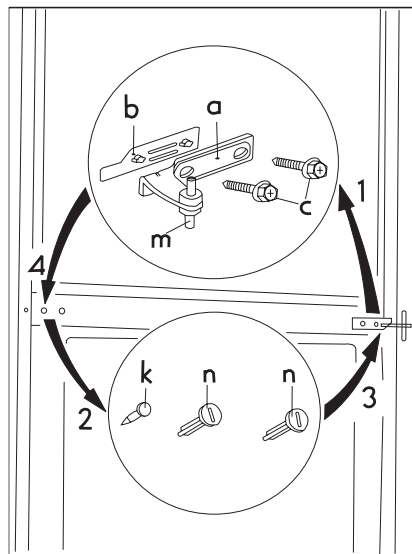

fig. 2.
3. Open the doors and dismantle the double door hinge (a,b) by removing the screws (2 pieces) (c). (fig. 2)
4. Take off the double door hinge (a,b,c) by gradually removing it from the cabinet, slightly tilting both doors. Do not forget to remove the plastic spacer (b) under the hinge. (fig. 2)
14. Remove the covering pins (3 pieces) (n, k) of the double door holder on the left side and put them to the other side. (fig.2)
15. Fit the pin of the double door hinge (m) into the left drill of the freezer door. (fig. 2)